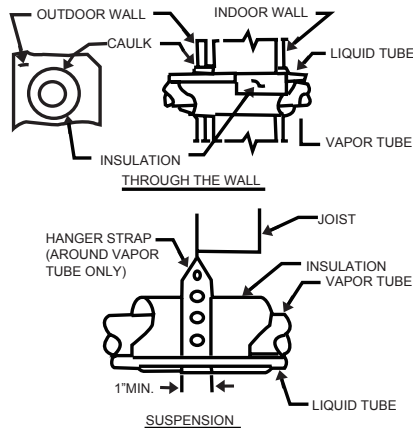

Fig.5 – Connecting Tubing Installation
- 5). When passing refrigerant tubes through the wall, seal opening with RTV or other pliable silicon--based caulk. (See Fig. 5.)
- 7). Do not suspend refrigerant tubing from joists and studs with a rigid wire or strap which comes in direct contact with tubing. (See Fig. 5.)
- 9). When necessary, use hanger straps which are 1 in. wide and conform to shape of tubing insulation. (See Fig. 5.)